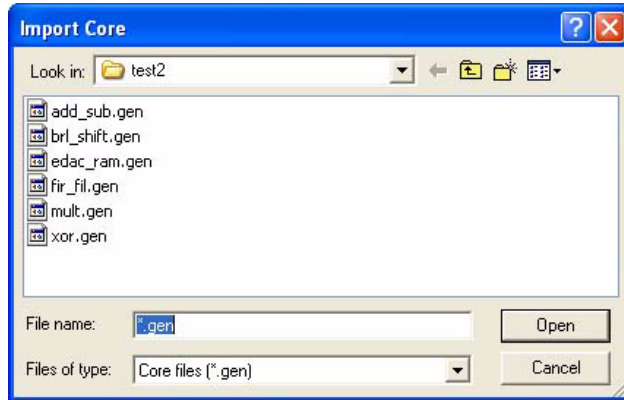

Figure 4. Import Core Dialog Box
1. From the **File** menu, choose **Import Core**. This displays the Import Core dialog box (as shown in Figure 4).